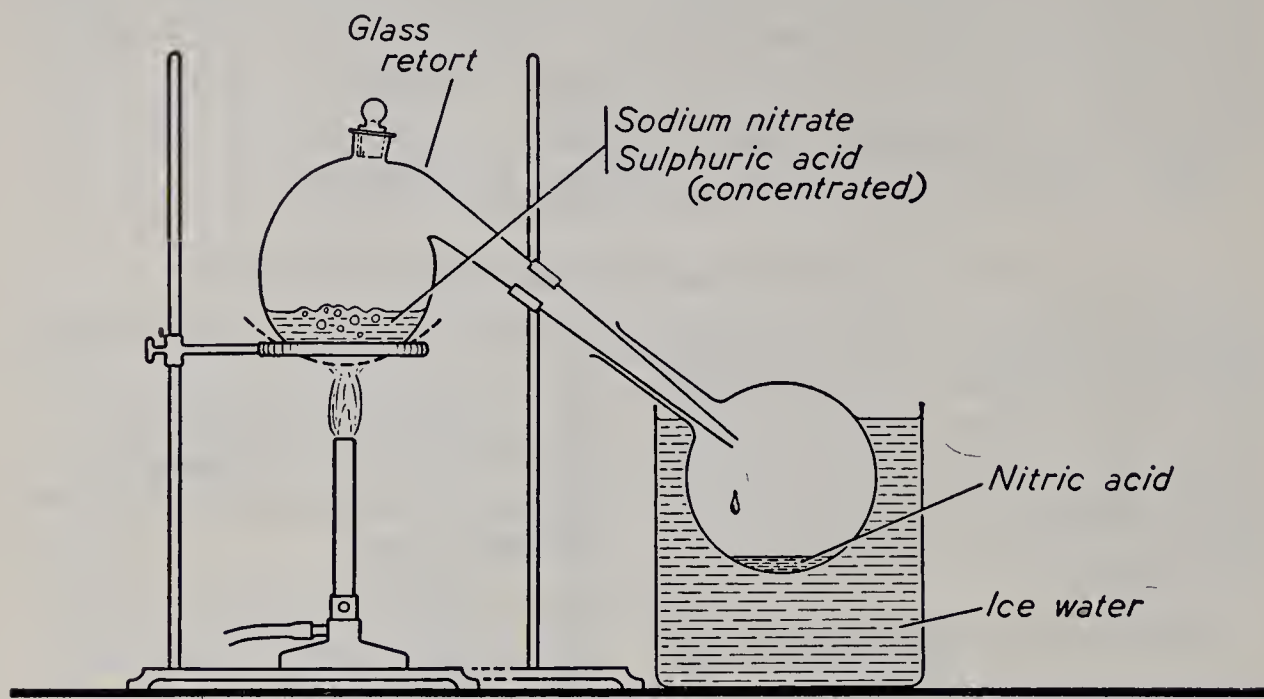

Fig. 71. The laboratory preparation and collection of nitric acid.
1. Arrange the apparatus as shown in Fig. 71. Place two teaspoonfuls of sodium nitrate in the retort, and add sufficient concentrated sulphuric acid to cover the sodium nitrate.